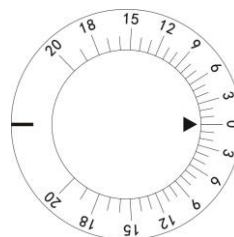
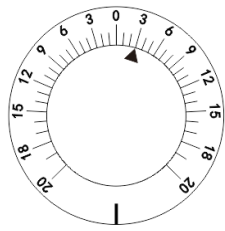

Fig.22
Fig.23
Turn rotary prism ⑫ by holding its base to set it on the examination aperture. Turn prism rotation knob ⑪ until the required prism power is set. What the black triangle arrow indicates is the current prism power. For example, prism power indicated in Fig.22 is 0, that in Fig.23 means base in 3Δ prism power, and that in Fig.24 means base up 3Δ prism power.